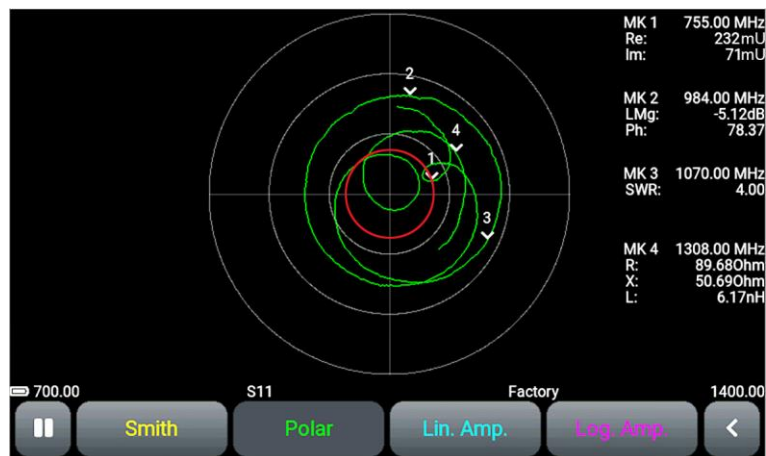

Figure 10.2 - Polar chart
10.2.1. The polar chart is designed to display the complex reflection coefficient in a two-dimensional coordinate system (Figure 10.2). The chart is similar to the Smith chart, but its scale grid is reduced to certain values of VSWR - 2; 5.